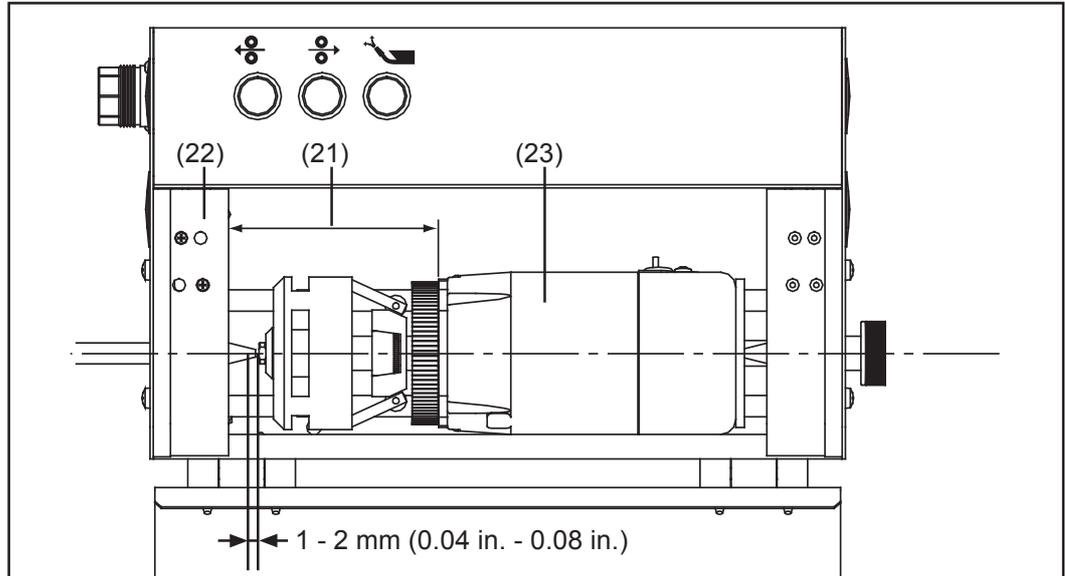
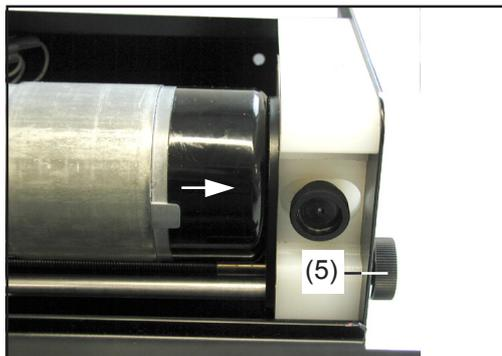

Fig.21 Measure the distance tensioning block / motor
Fig.22 Push the drive unit to the right completely
- Slacken the hexagon nuts (24) and (25) using two engineer's wrenches (spanner width 13)
- Reset the previously noted distance (21) - Fig. 21 - by turning the positioning screw (5) - Fig. 22